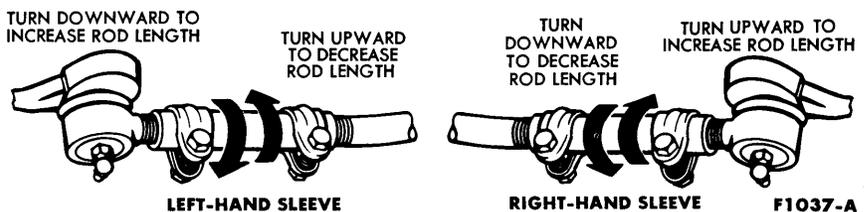

FIG. 4—Spindle Connecting Rod Adjustments
2. Adjust toe-in. If the steering wheel spokes are in their normal position, lengthen or shorten both rods equally to obtain correct toe-in (Fig. 4). If the steering wheel spokes are not in their normal position, make the necessary rod adjustments to obtain correct toe-in and steering wheel spoke alignment (Fig. 5).